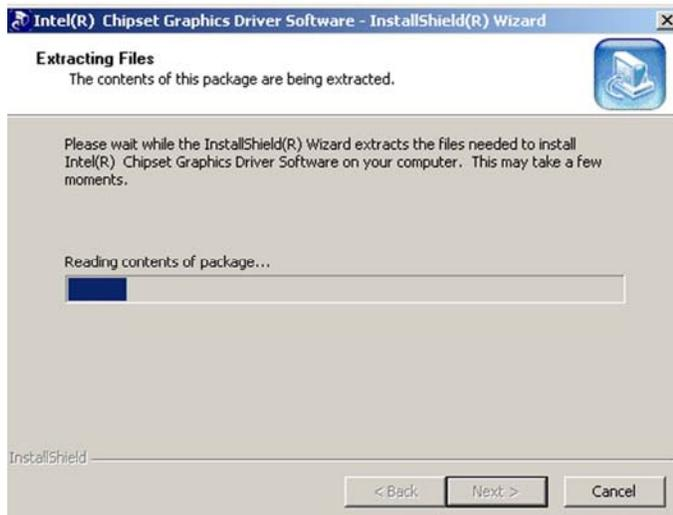

Figure 6-10: GMA Driver File Extraction
Step 7: Click **NEXT** to extract the GMA driver files. See **Figure 6-10**.